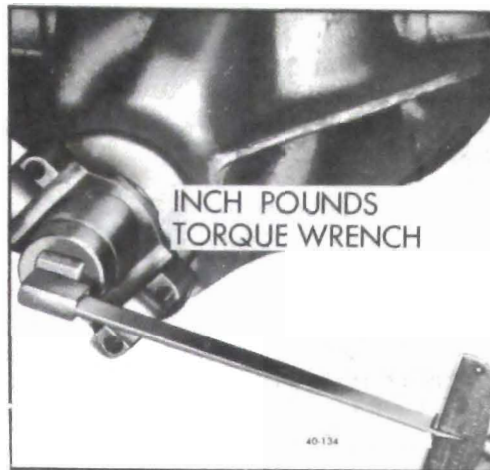

Figure 40-148 Checking Pinion Preload
9. Check preload by using an inch pound torque wrench as shown in Figure 40-148.
3. Rotate differential case assembly several complete turns to seat bearings. Check bearing preload using an inch pound torque wrench connected at pinion nut. Bearing preload should read 35-40 in.lbs. of rotating torque with new bearings or 20-25 in.lbs. of rotating torque with reused bearings. See Figure 40-148. If preload is not according to these specifications, increase shim thickness on each side .002" for each additional 10 in.lbs. preload desired or decrease shim thickness .002" on each side for each 10 in.lbs. preload to be subtracted.